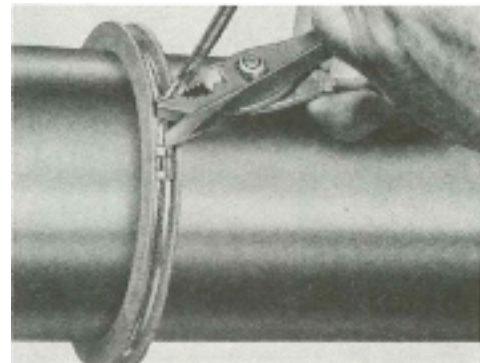

Figure 1 - Seal Retainer Installation
8. **Thrust collars in a fixed unit should now be installed.** (Step 8 does not apply to short series (SSL) style pillow blocks, or shafts with integral collars.) Remove clamp screws from thrust collars and clean cracked joint with wire brush. Back off set screws to clear inside of collar. Place one collar half on shaft so shaft flinger groove is next to liner base in the non-expansion (fixed) bearing. Rotate collar half around shaft and place other half in position. Bring halves together at join, making sure match at joint is perfect and insert clamp screws. There should be no offset at collar face. Tap halves together and tighten 1/2-13 NC (Soc). HD clamp screws to recommended torque of 1425 in.-lbs. Repeat above operation for opposite end of bearing. **Assemble two collars on one bearing only.** Tap collar up to face of lower liner allowing a total running clearance of .015-.017, then tighten 7/8-9NC (Soc) set-screws to recommended torque of 4100 in.-lbs. Thrust collars do not apply to short series (SS) style. Collar should run parallel to end face of liner within .002".
11. Thread **dust seal** and **seal retainer** into groove at end of housing base and around shaft. Slide free end of seal retainer through clasp and pull tightly. Hold clasp and tighten as shown in Figure 1. Cut off excess material and break off clasp lip, discarding it so it won't drop in housing bottom. Seal retainer may be disengaged before installation by inserting a straightened paper clip **between the bands** at the clasp and pulling the free end of the retainer out of the clasp.